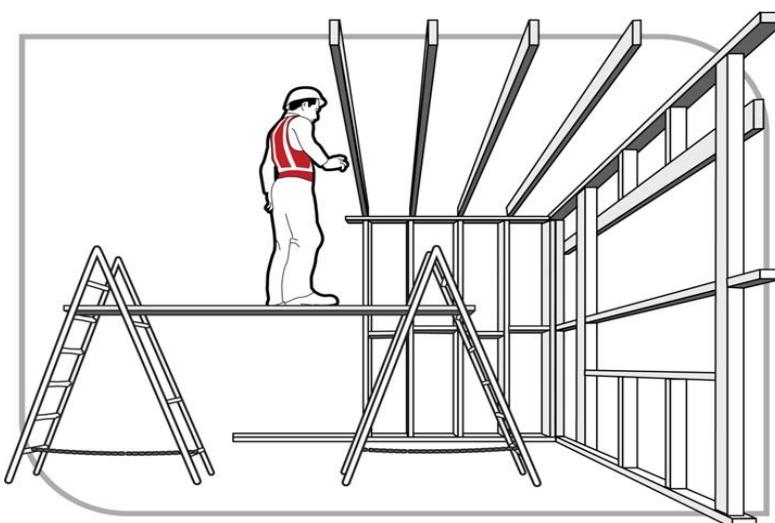

FIGURE 1 INSTALLING CEILING OR UPPER-LEVEL FLOOR JOISTS.
- The setting out and nailing of level ceiling joists or upper-level floor joists should be done by working off scaffolding set up on the floor below. Fall prevention devices such as trestle scaffolds may be used as shown in Figure 1.